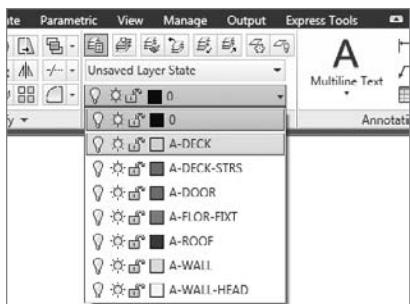

FIGURE 6.18 The expanded Layer drop-down list
5. Click the Layer drop-down list to open it (see Figure 6.18).